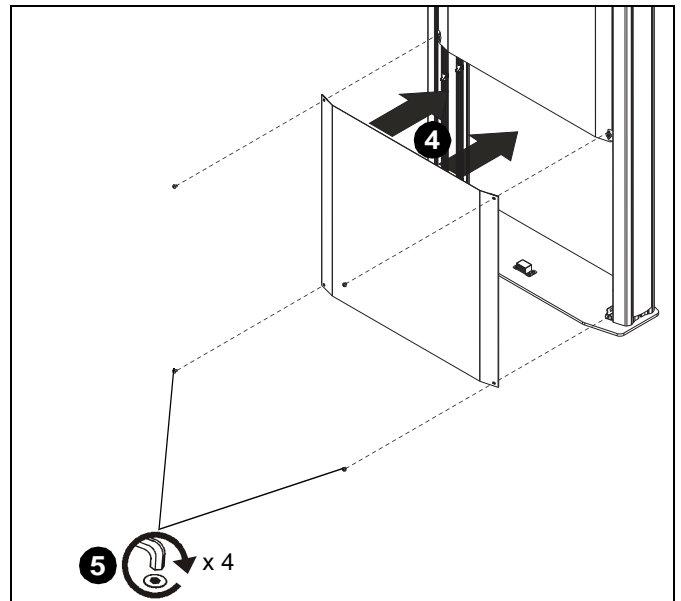

Figure 16
6. Reinstall lower cover. Refer to Cover Removal Section for details. (See Figure 16)
4. Install lower front cover back on stand using magnets. (See Figure 16)
5. (Optional) Re-install four button head cap screws if additional security is desired. (See Figure 16)